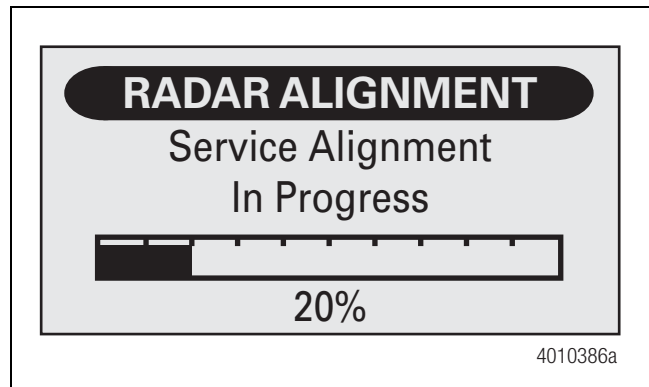

Figure 11
2. Drive the vehicle on a straight road above 30 mph (48 kph). The road should have telephone poles, signposts and other non-moving objects along the roadside. There must also be other traffic on the road, either on coming or lead vehicles at distances greater than 150 ft. Stopping the vehicle while traveling in traffic is acceptable but will increase the time needed to complete the alignment procedure. While in radar alignment mode, the OnGuard™ display will show the progress of the alignment process as shown in Figure 11.